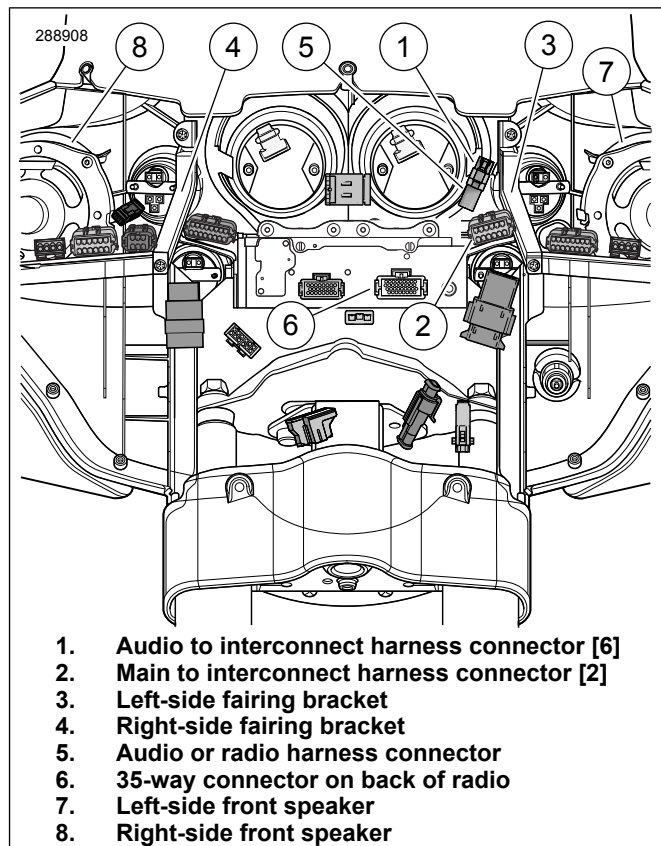

Figure 1. Inner Fairing Connectors (FLHX, FLHT/C/U)
- *See Figure 1. Make note of the location of the black six-way Deutsch audio to interconnect harness connector [6] (1) before moving the gray Molex 12-way connector [2] (2).*
If the black six-way Deutsch audio to interconnect harness socket housing [6B] (See Figure 1., Item 1) on the vehicle is **connected** to an audio harness (5), unplug the connector halves and proceed to the **Amplifier Harness Routing and Connection** section.
3. Plug the 35-way connector (13) of the radio wire harness (12) into the receptacle on the back of the radio (see Figure 1, Item 6). Listen for a definite "click".
4. Route the shorter branch of the radio wire harness (with a six-way pin housing and yellow/orange and yellow/violet wires), over to the area of socket housing [6B] (1), but **do not** connect at this time. This pin housing (14) will now be known as connector [6A].
1. Remove the secondary locking wedge from socket housing [6B] (See Figure 1., Item 1) on the vehicle per service manual instructions. Remove the plugs from cavities 4 and 5.